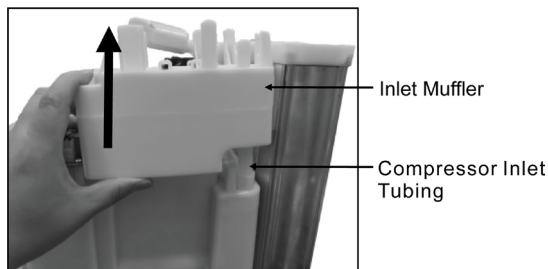

Figure 18
- ▶ Pull up the inlet muffler and pull out the compressor inlet tubing. (Figure 18)